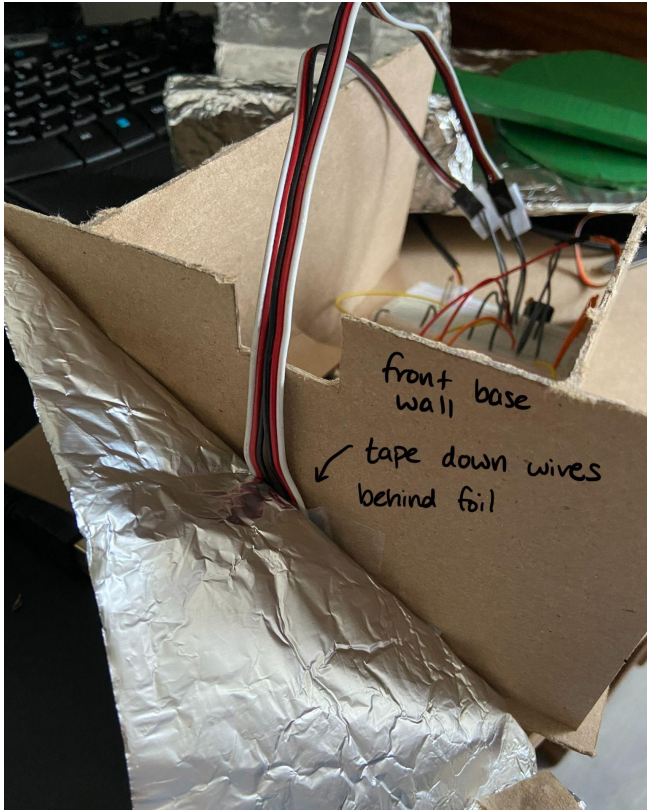
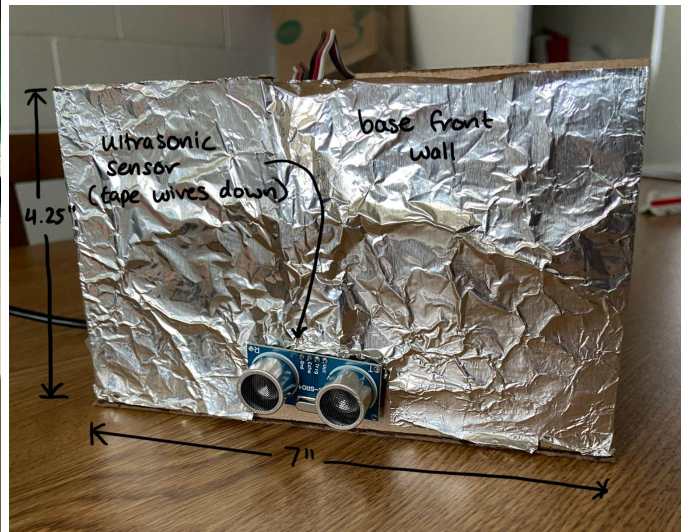

Figure 7: Ultrasonic Sensor Wire Taped Down
Figure 8: Front Wall Assembly w/ Ultrasonic Sensor
4. To the front wall of the base, tape down the ultrasonic sensor so it looks like **Figure 7**. Add foil to cover up the wires and secure the ends of it with tape (**refer to Figure 8**).